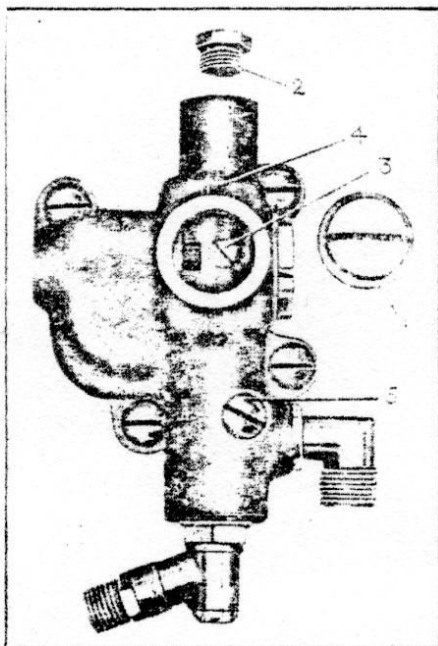

Figure 3—Adjustment of Mechanical Oiler
*Second:* Prime the mechanical oiler to guard against an air lock after the engine has started. Remove the small bleed screw in the bottom of the mechanical oiler case (see Figure 3, Screw 5) and allow the oil from the tank to flow through the pipe to the pump for several seconds, thus clearing the line of air and properly priming the pump. Replace bleed screw tightly.
*First:* Remove caps 1 and 2 (Figure 3) and loosen, but do not remove screw 3.